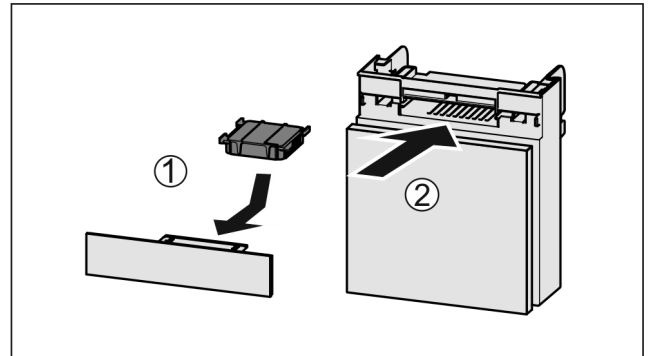

Fig. 124
- ▶ Insert the carbon filter as shown in the diagram Fig. 124 (1).
- ▶ Push the compartment in Fig. 124 (2).